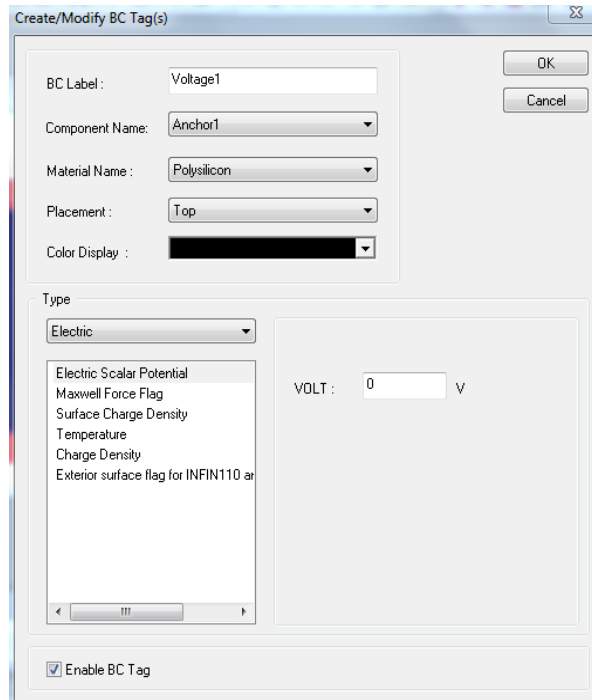

Figure 147: Specifying Voltage BC Tags.
- ☑ To specify the voltage BC tag as shown in (Figure 147):